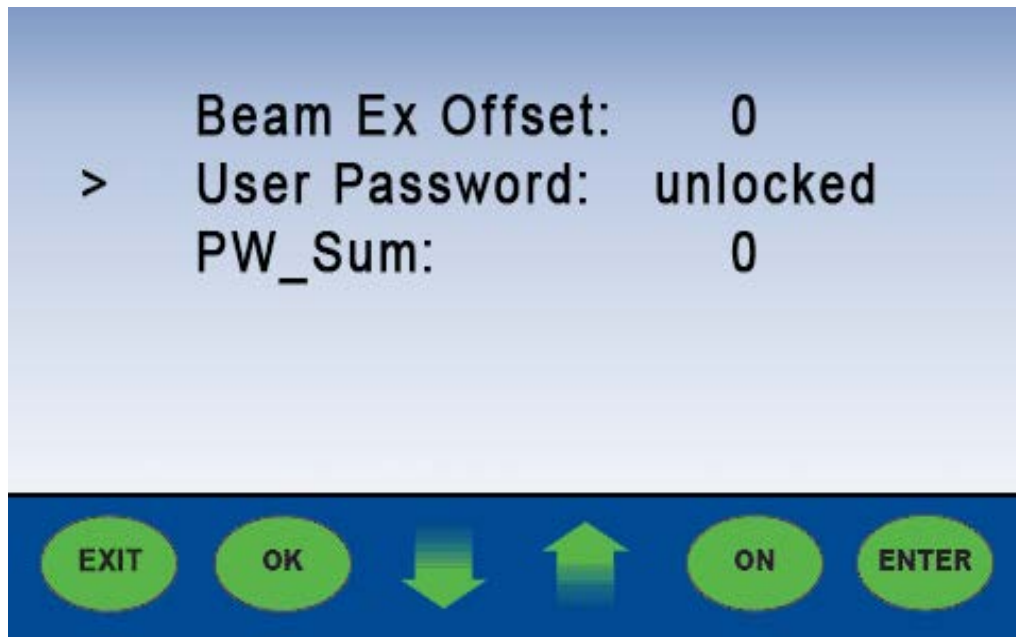

Figure 75
11. Press the **enter button** to input the new password and return to **“User Password: Unlocked”** on the menu list (**Figure 75 on page 124**).